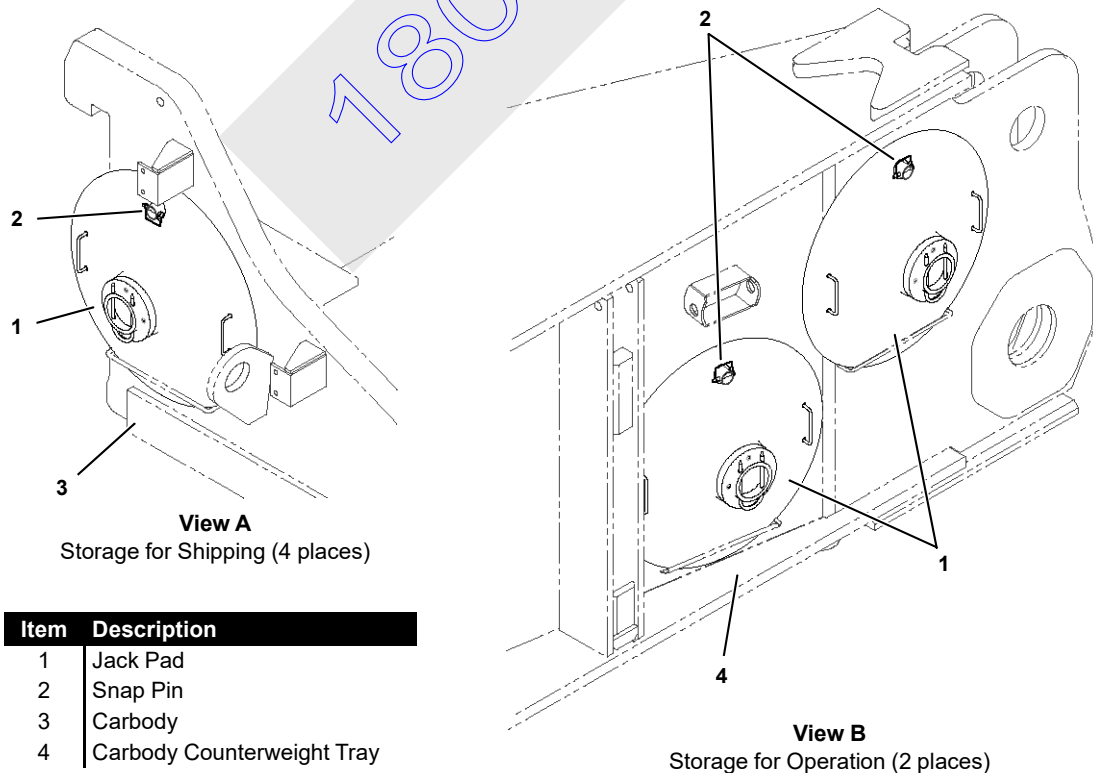

FIGURE 4-7
On current production cranes, rotating bed jack pads (1, Figure 4-7) are stored at the following locations:
3. Remove jack pads (14, View C) from storage (see Figure 4-7) and fasten them to jacks with U-shaped locking pins (15).